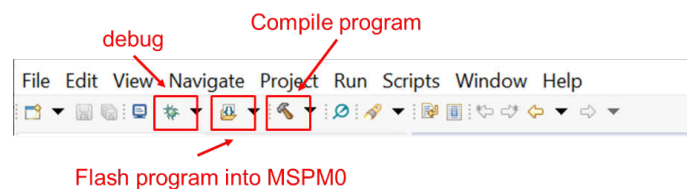
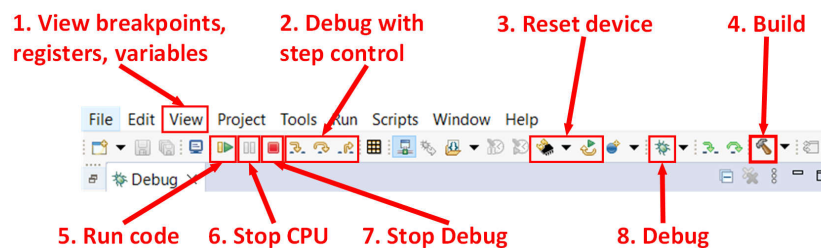

Figure 2-21. Commonly Used Function
Figure 2-22. Commonly Used Debug Functions
- Figure 2-21 and Figure 2-22 show a quick introduction to CCS functions.